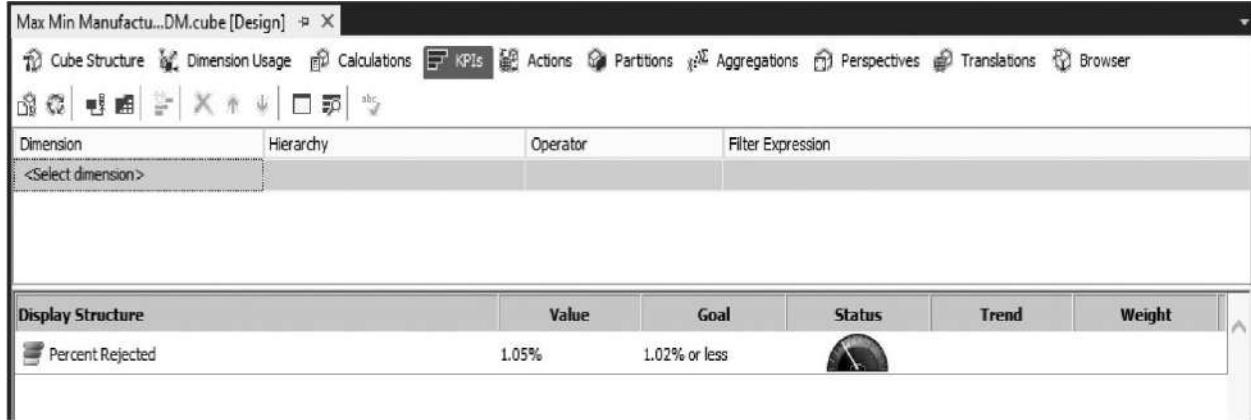

**Figure 12-20** The Browser View toolbar button
15. Click the Browser View button on the KPIs tab toolbar, as shown in Figure 12-20. The KPI browser appears.